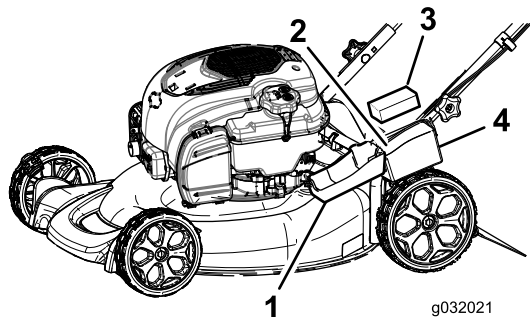

Figure 29
1. Unclip the battery cover and remove it (Figure 29).